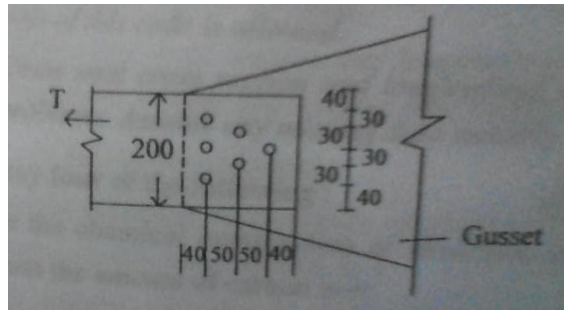

**Fig. 3b**
2. Determine the block shear strength of the welded tension member shown in Fig. 3b. Use steel of grade Fe 410.